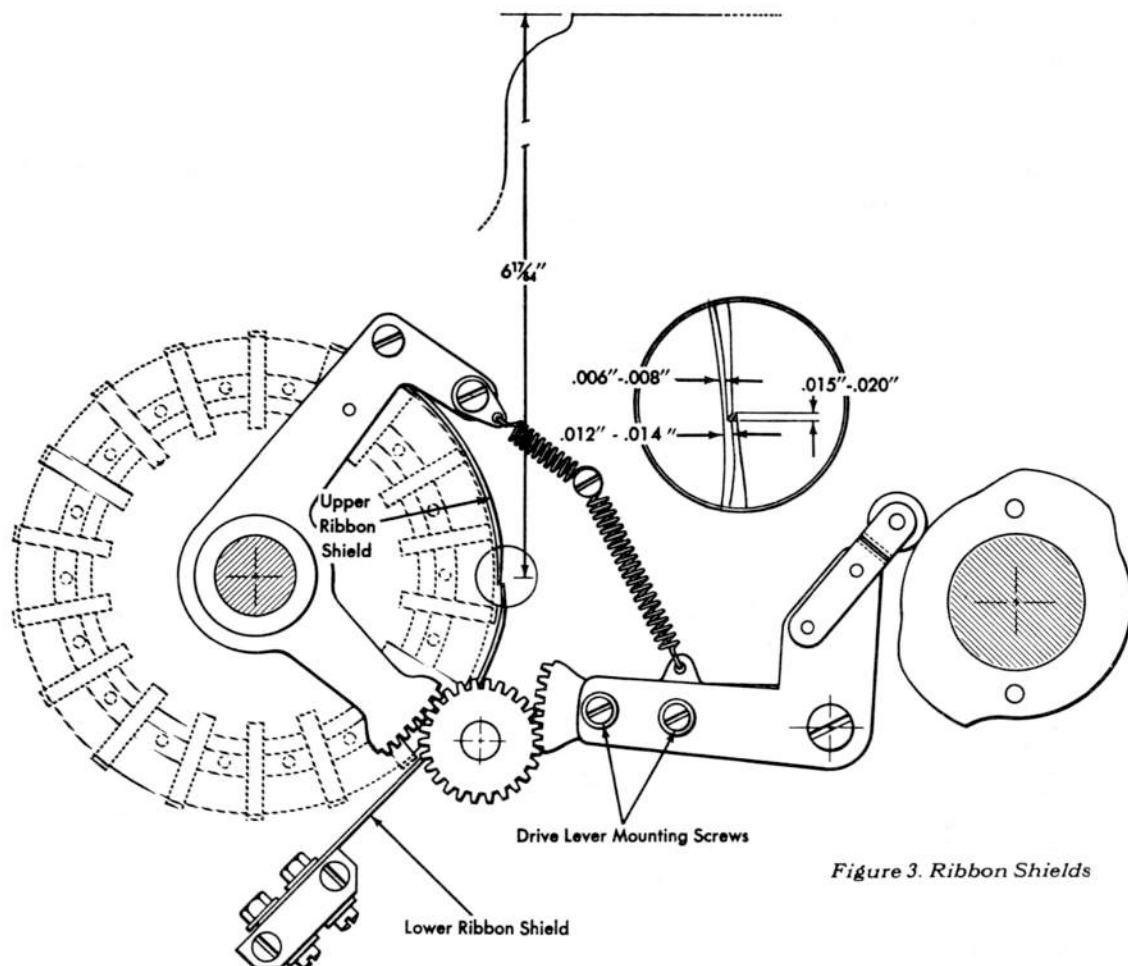

Figure 3. Ribbon Shields
#### LOWER RIBBON SHIELD (FIGURE 3)
**UPPER RIBBON SHIELD (FIGURE 3)**